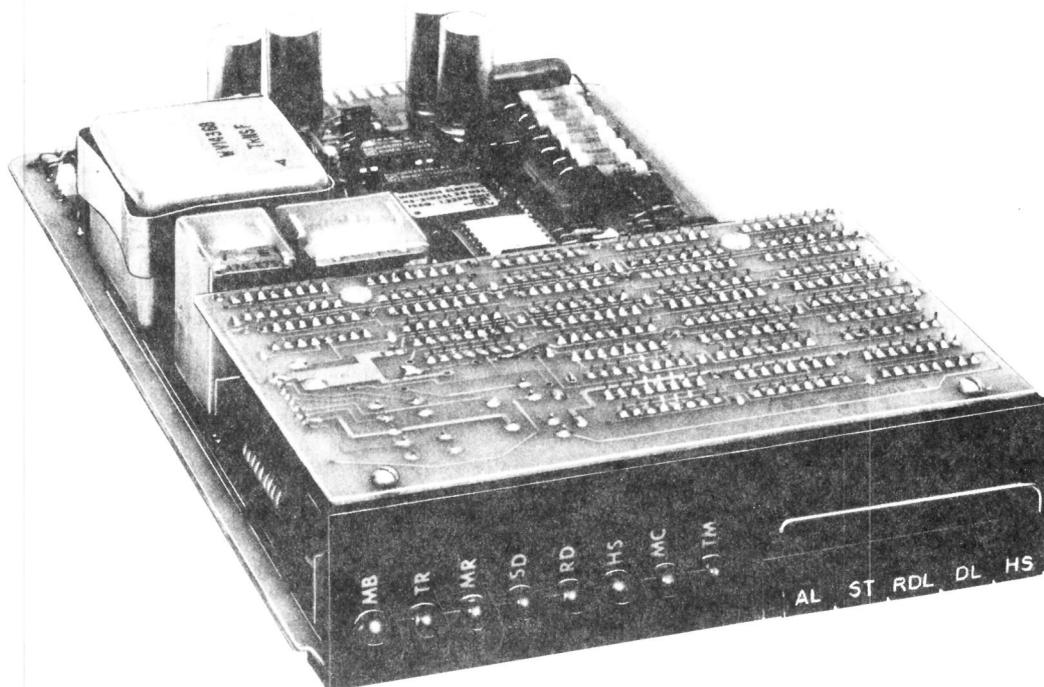

Fig. 2—DS 212A-L1A
- DS 212A-L1A: Printed circuit pack assembly shown in Fig. 2.